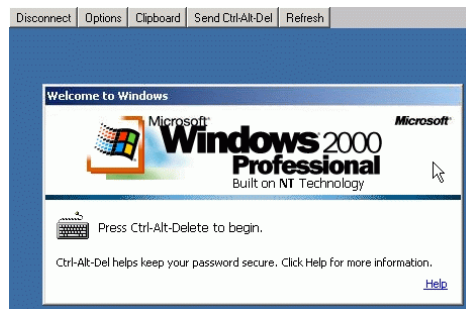

Figure C-3 Welcome to Windows Dialog Box
- d. Type the default password and click *OK*. The *Welcome to Windows* dialog box displays (Figure C-3).